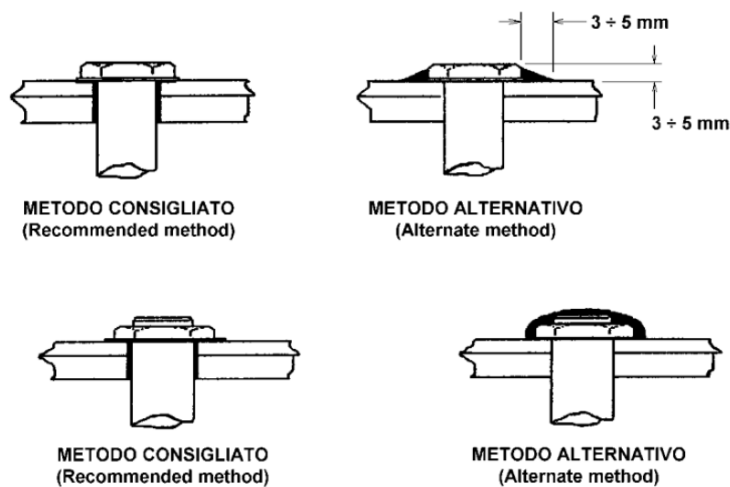

Figure 13: Bolt sealing
- b) Apply sealant as indicated in Figure 13 with a pressure gun or syringe and eventually spread it with a wood or plexiglass spatula.